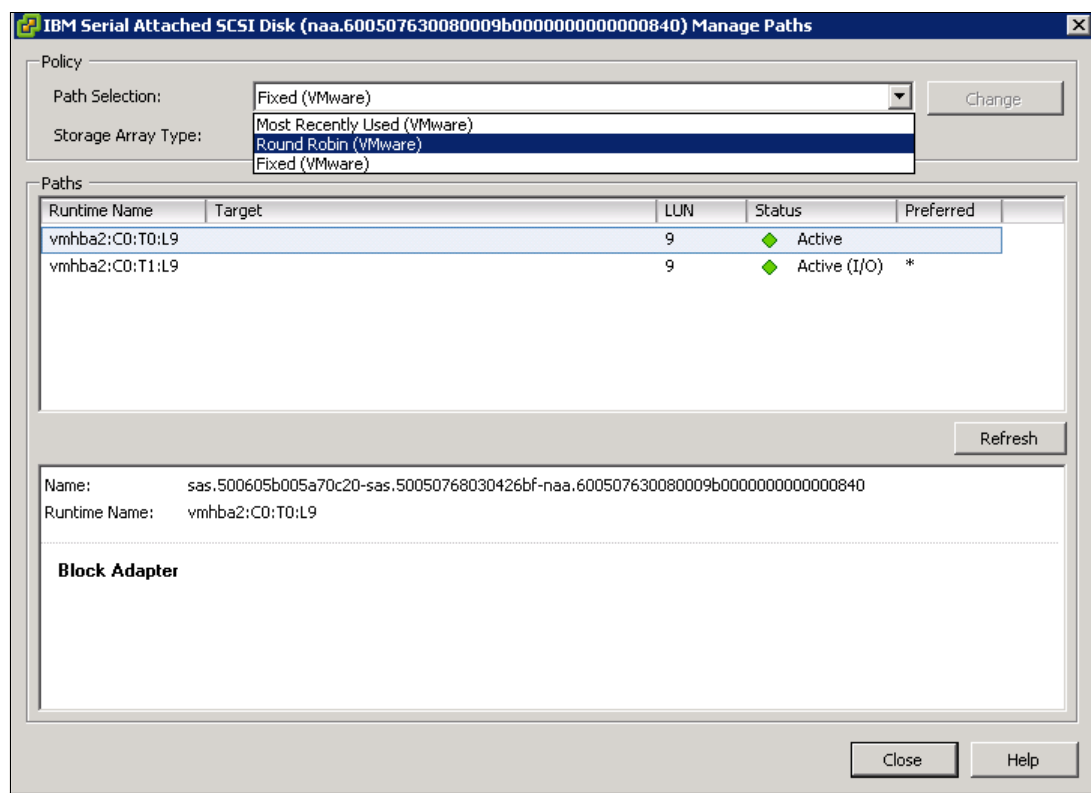

Figure 5-106 Select a Datastore multipath setting
11. Click **Manage Paths** to customize the multipath settings. Select **Round Robin** (as shown in Figure 5-106) and click **Change**.